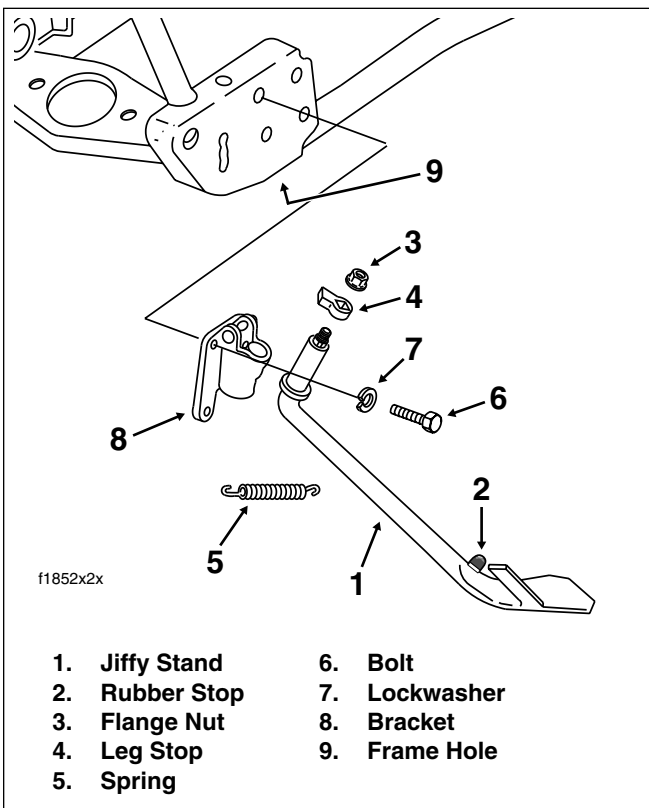

Figure 2-200. Jiffy Stand Assembly
2. See Figure 2-200. Move jiffy stand to the retracted position (up). Remove flange nut and leg stop from threaded end of jiffy stand leg.